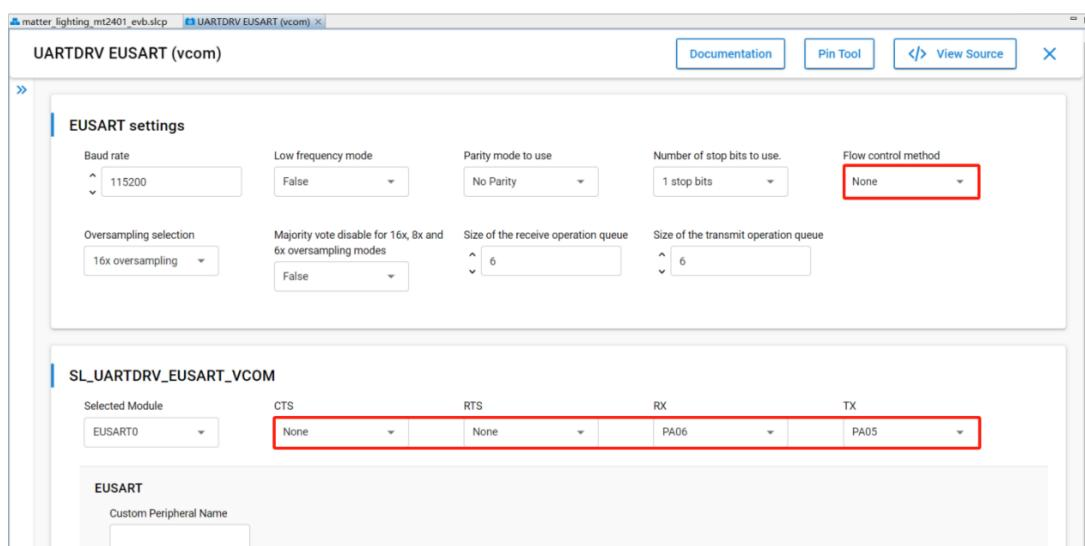

Figure 5.15
1) Open the "Platform -> Driver -> UART -> UARTDRV EUSART -> vcom" configuration window and configure the following parameters, as shown in figure 5.15.